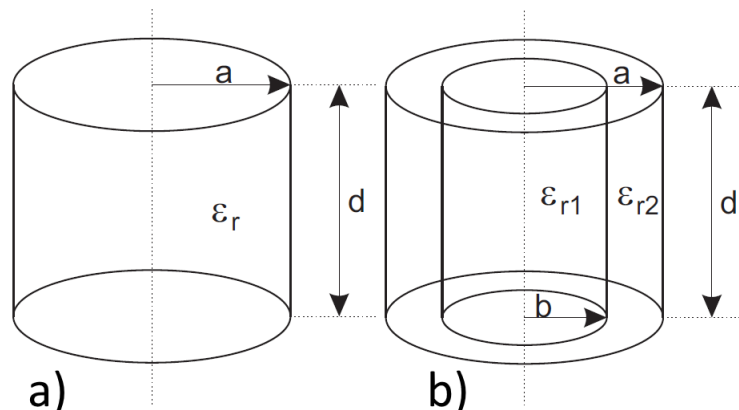

Figure 1: $d = 10\sqrt{2}$ mm, $a = 10$ mm, $b = 6.35$ mm.
- Fig.1: Eigenvalues from Rep and computed using Arpack, with $\sigma = 6$ GHz.